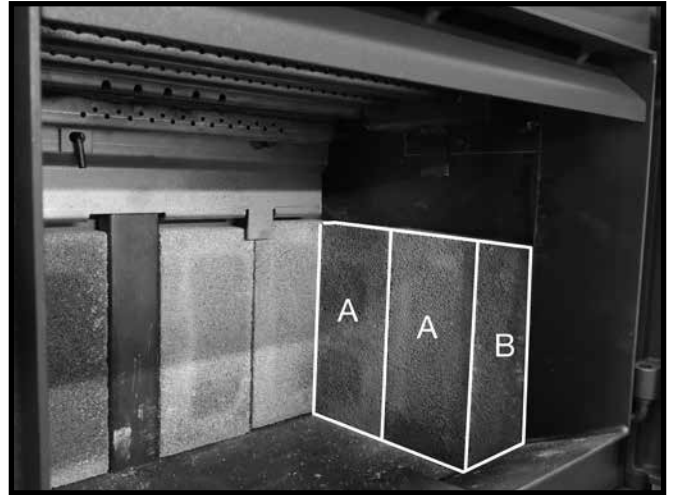

Figure 18: Lower side wall firebricks in place.
2. For the side walls: Stand an "A" firebrick against the side wall and up against the rear wall firebrick. Stand another "A" brick beside the first one followed by a narrow "B" firebrick (Figure 18).